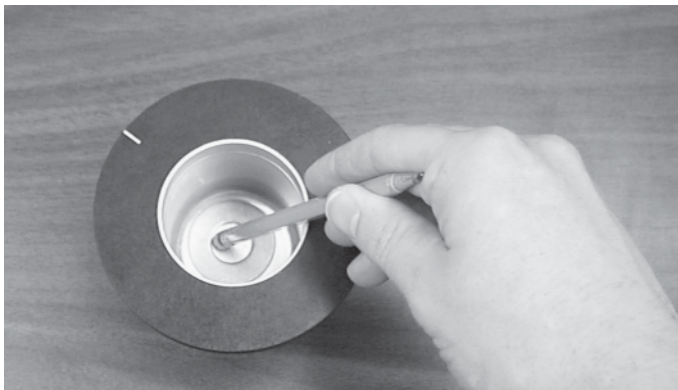

Figure 4: Orienting spacer in sample cup
2. Place a 0.048" (1.22 mm) high spacer in the bottom center of the sample cup (see *Figure 4*, next page). Then place the sample cup in the heater block.